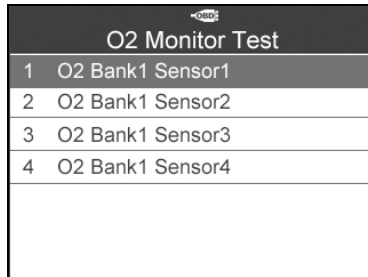

Figure 6.17
- 3) Use the **UP/DOWN** scroll button to select O2 sensor from **O2 Monitor Test** menu and press the **Y** button. (Figure 6.17)